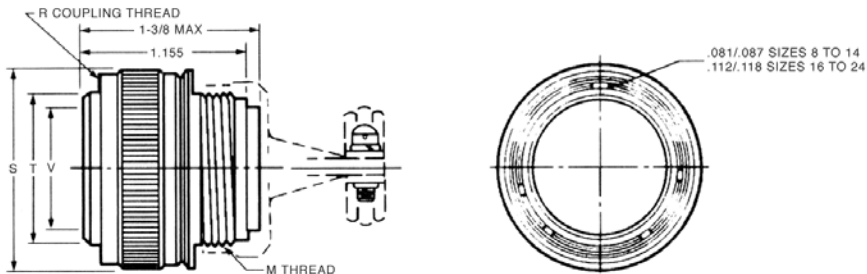

Figure 3-2. MC Style Connector
A. MC-Male Cord (see Figure 3-2)